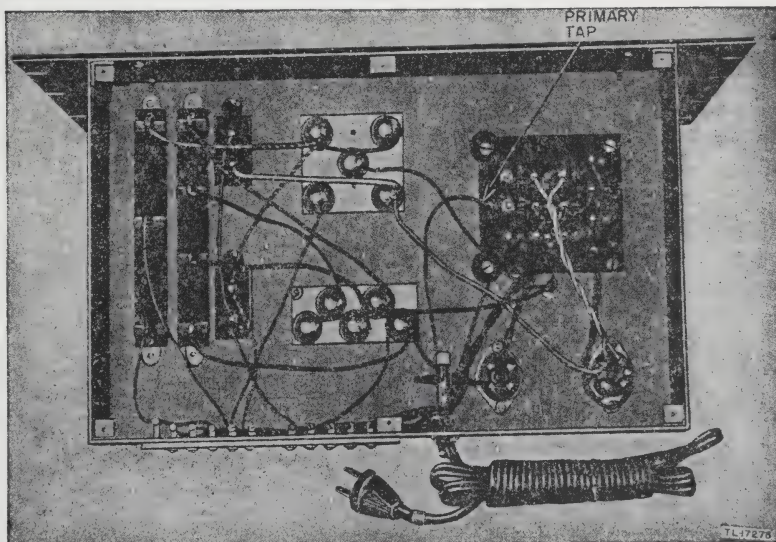

Figure 12. Bottom view of power supply unit, showing primary tap connection.
e. A-C INPUT. Before plugging the power cord into the a-c power line, remove the bottom plate from the power supply unit to see that the primary tap is properly connected for the particular a-c voltage available. This primary tap connects the fuse holder to one of the screw terminals on the power transformer, and is marked PRIMARY TAP in figure 12. Connect the primary tap to the screw terminal most closely agreeing with the available a-c line voltage and replace the bottom cover plate.
(1) Power Supply Unit RA-74-(*) has eight